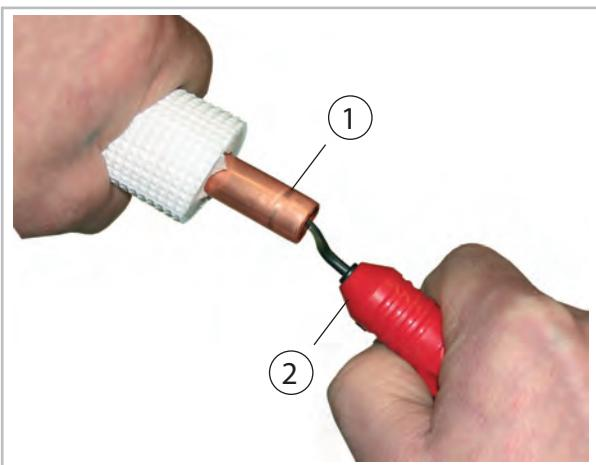
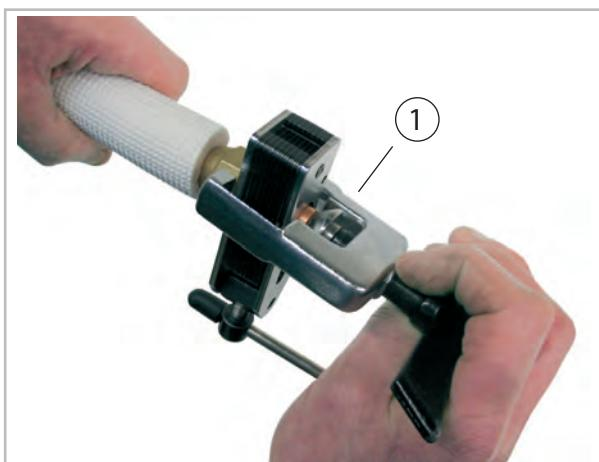

Fig. 18: Deburring the refrigerant piping
Fig. 19: Flanging the refrigerant piping
8. Prepare the laid refrigerant piping as shown below (Fig. 18 and Fig. 19).